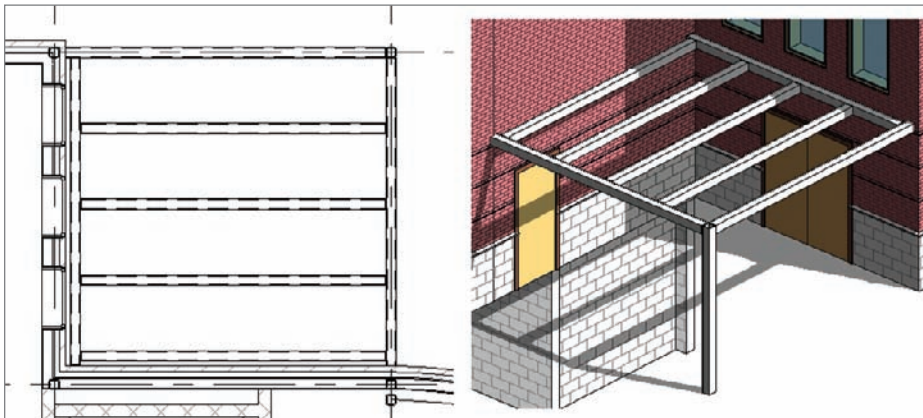

FIGURE 8.43 The framing at the canopy
9. In the Mode panel of the Modify | Create Beam System Boundary tab, click the Finish Edit Mode button. Your framing should look like Figure 8.43.